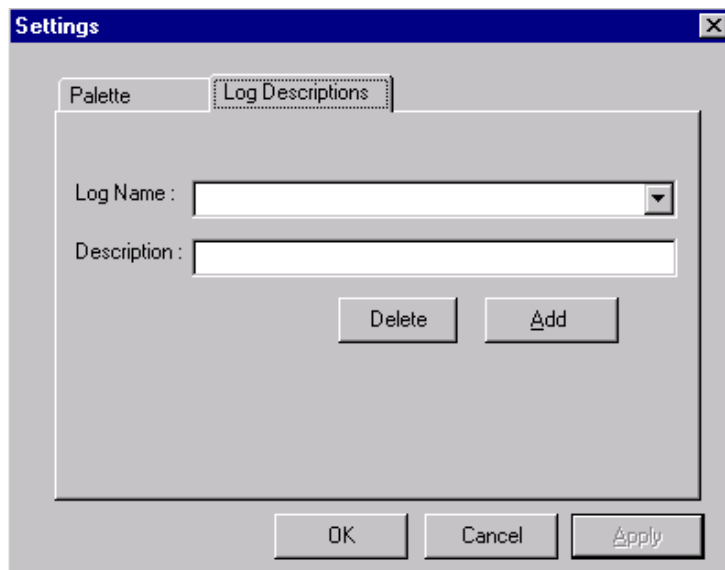

Figure 24. Log Descriptions
2. Click the **Log Descriptions** tab, Figure 24.